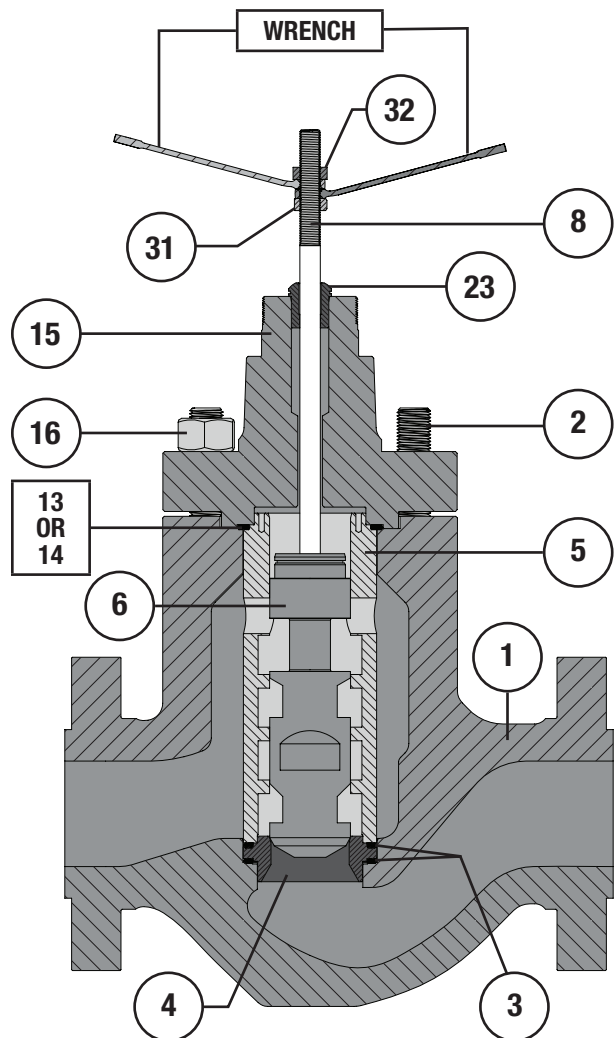

Figure 15 Lapping Procedure Setup (Steps 1 - 8)
- 8** Install the jam nut (Key 31) on to the valve stem (Key 8) and build a handle as shown in Figure 15 and 16 using the two wrenches and the hex nut (Key 32).